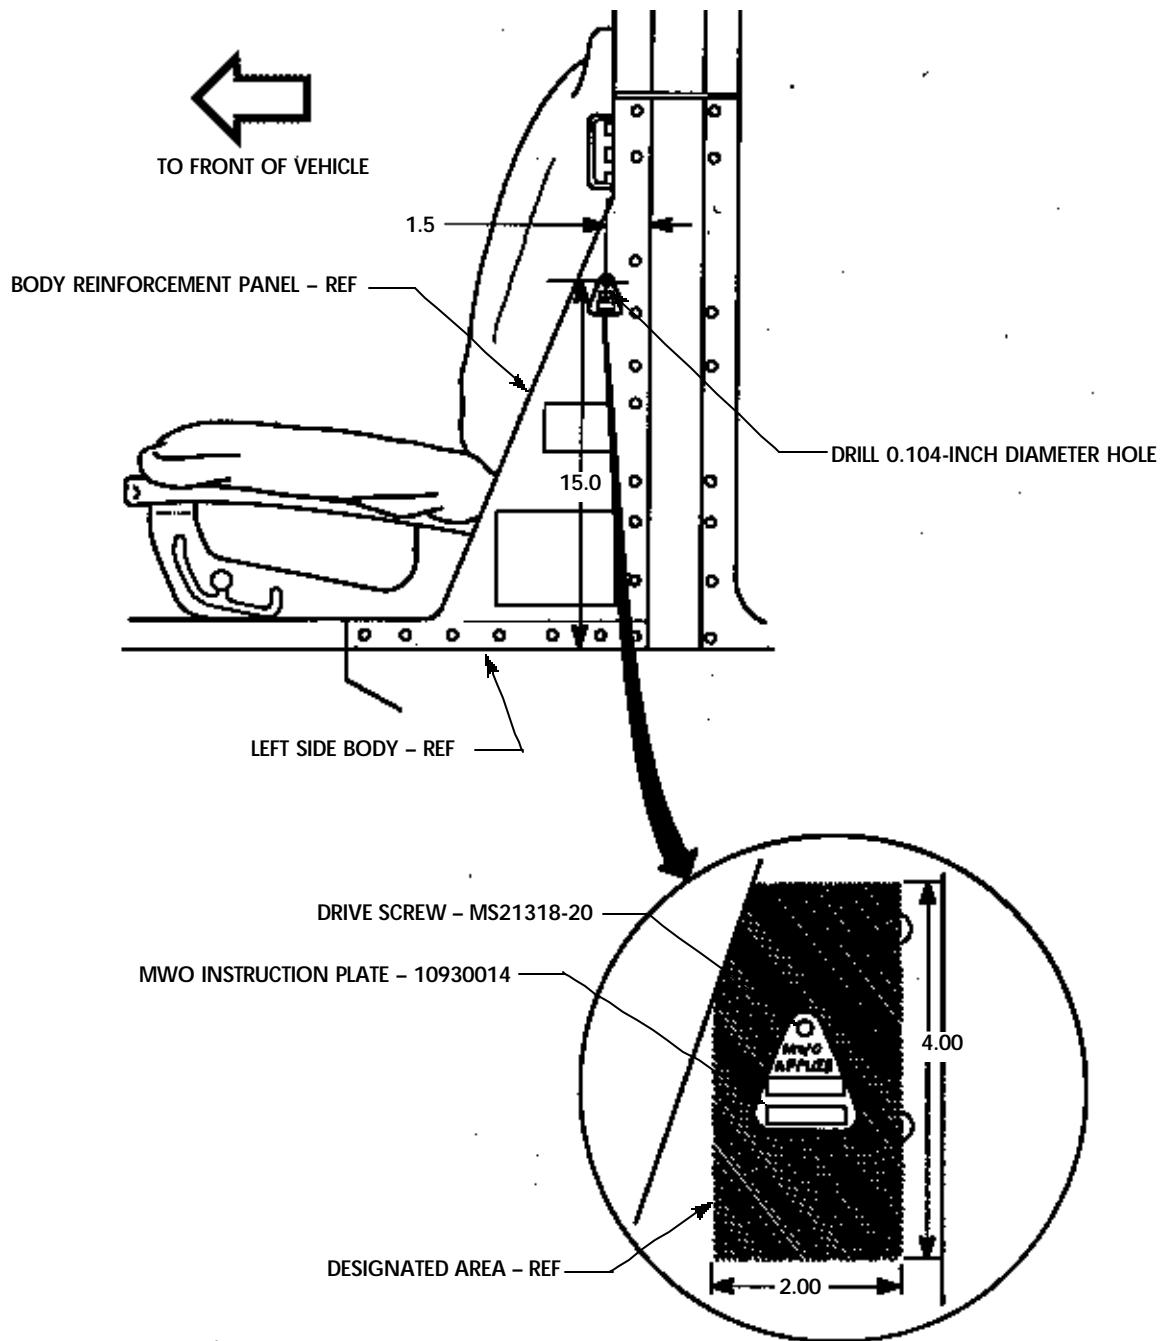
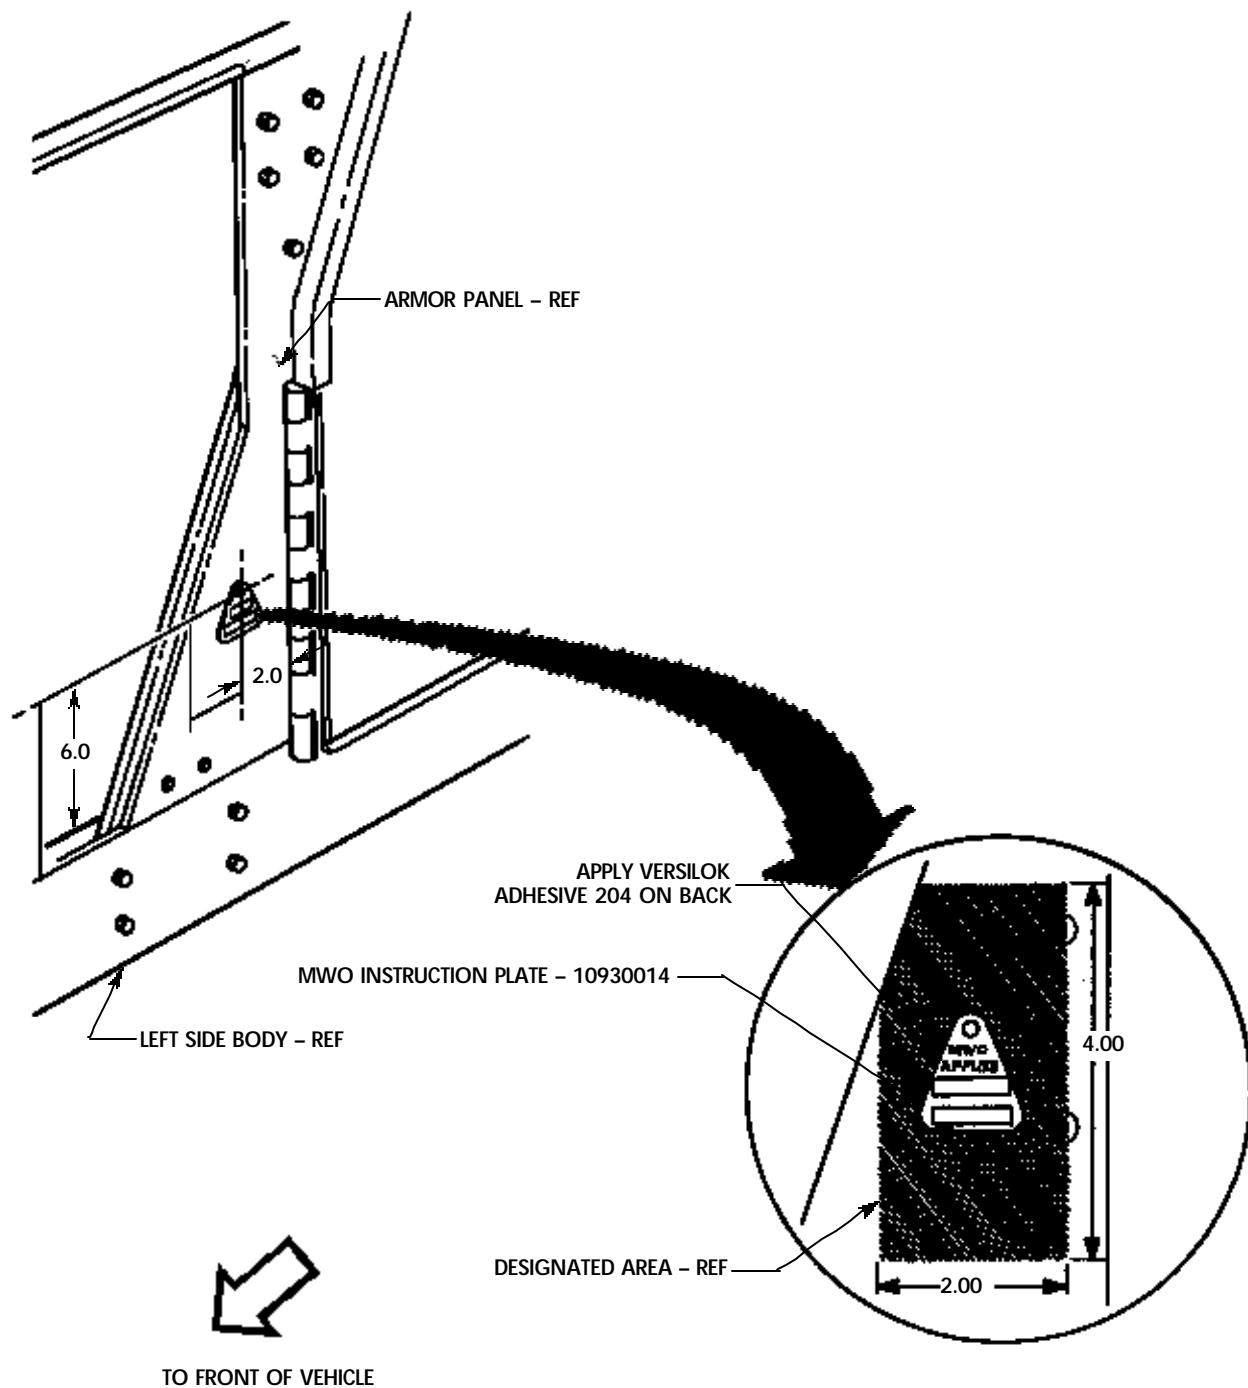

FIGURE 7
FIGURE 8
(1) After Airlift Bumper Reinforcement Modification Kit is installed, mark MWO under "9-2320-280-20-6" in the MWO Applied block and date applied in Date block on 10930014 MWO instruction plate.
(2) Install MWO instruction plate 10930014 by drilling a 0.104-inch diameter hole (#37 drill bit) within designated area on left side body reinforcement panel and secure with MS21318-20 drive screw as shown in figure 7.
(3) After drive screw is installed, flatten or remove protruding excess drive screw material from inside of side body reinforcement panel.
(4) Apply versilok adhesive 204 on back of MWO instruction plate 10930014 and install on left side body armor panel as shown in figure 8.
**15. MATERIAL CHANGE (MC) NUMBER.**